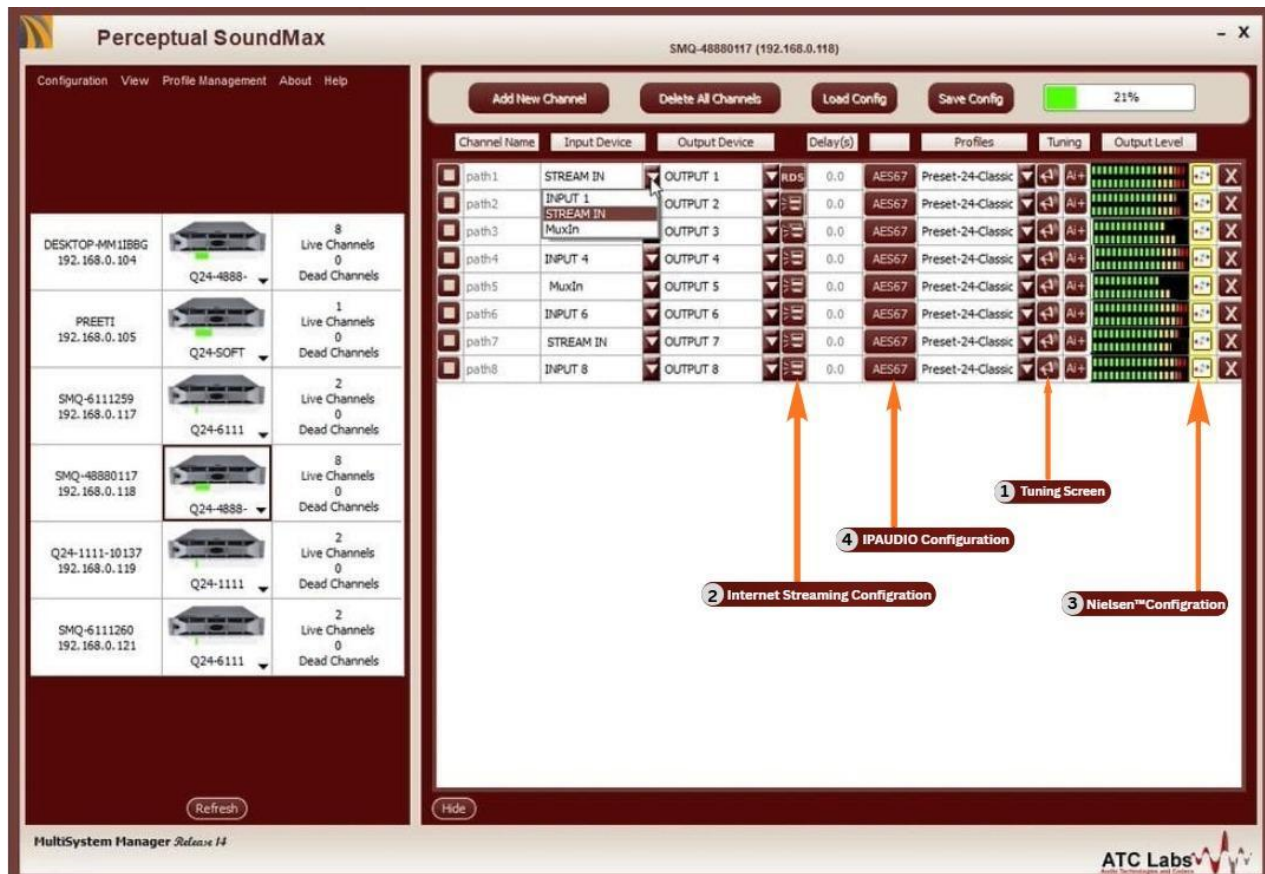

Figure 2.5.2: SoundMaxManager™ Detailed View (Model Q24-4888)
- SoundMax™ Manager will auto-detect the “Model Q24-4888/Q24-4880 rack mount encoder/decoder” as Live Station. By clicking on the station from this list, you can get a detailed view (as shown in Figures 2.5.2 and 2.5.3 below) and options to configure that particular station.